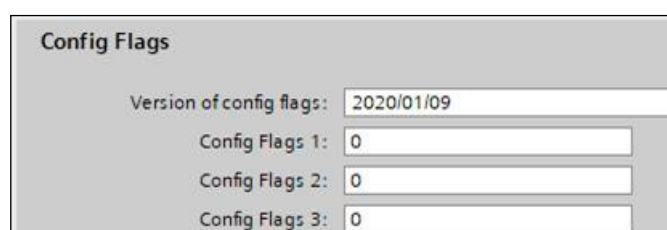

Fig. 98: Config Flags – linear profile
- **Ignoring offsets configured in the project:** You can use the “Config Flags 1” entry to set whether the sensor should accept or ignore the offsets transmitted by the controller when establishing the connection. You can adjust this in the module parameters of the sensor in the “Config Flags” section (Fig. 98). You can set the following values for bit 1 of the “Config Flags 1” entry: